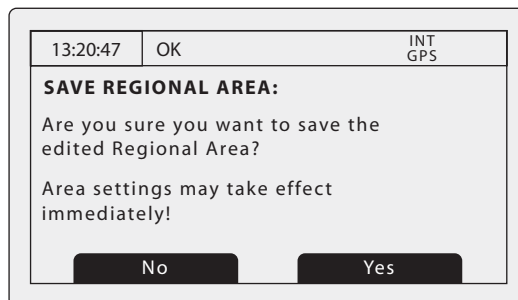

Figure 55 Regional area settings confirmation screen
7. You will be prompted to confirm storage of the regional area setting with the display shown in Figure 55.